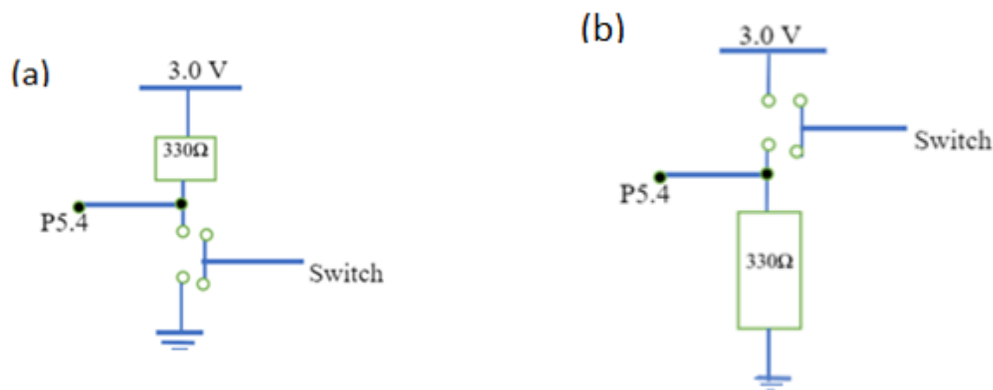

Figure 1. (a) Pull-up and (b) pull-down resistor settings
1. Program an MSP432 microcontroller to light up two LEDs based on the state of a switch. Read an input coming from breadboard switch. If the input bit is low, light up LED1 on the breadboard. Else (input bit must be high), light up LED2 on the breadboard. You may use P5.4 as input pin and P5.1 and P5.0 as output pins for the two LEDs. Decide on whether you will use a pull-up or pull-down resistor for the input pin. The pull-up and pull-down resistor settings are shown in Fig. 1.